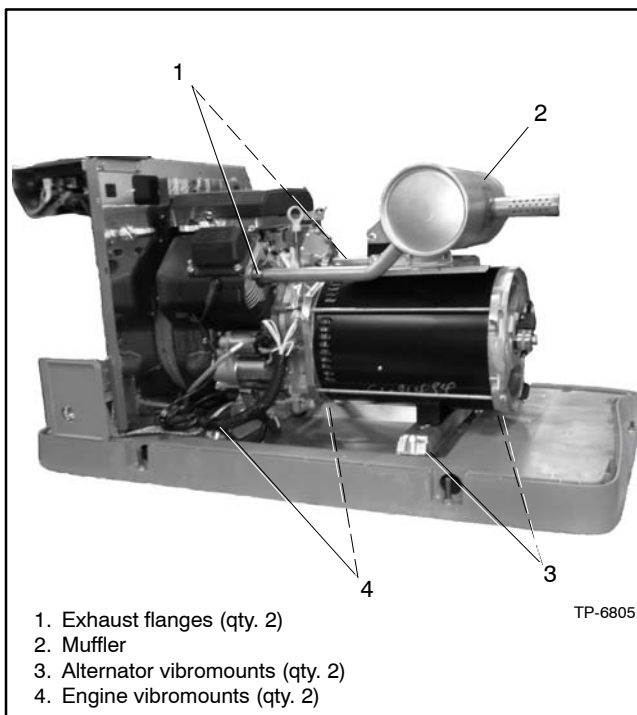

Figure 7-34 Exhaust System (RESA shown)
8. Install the exhaust system. See Figure 7-34.